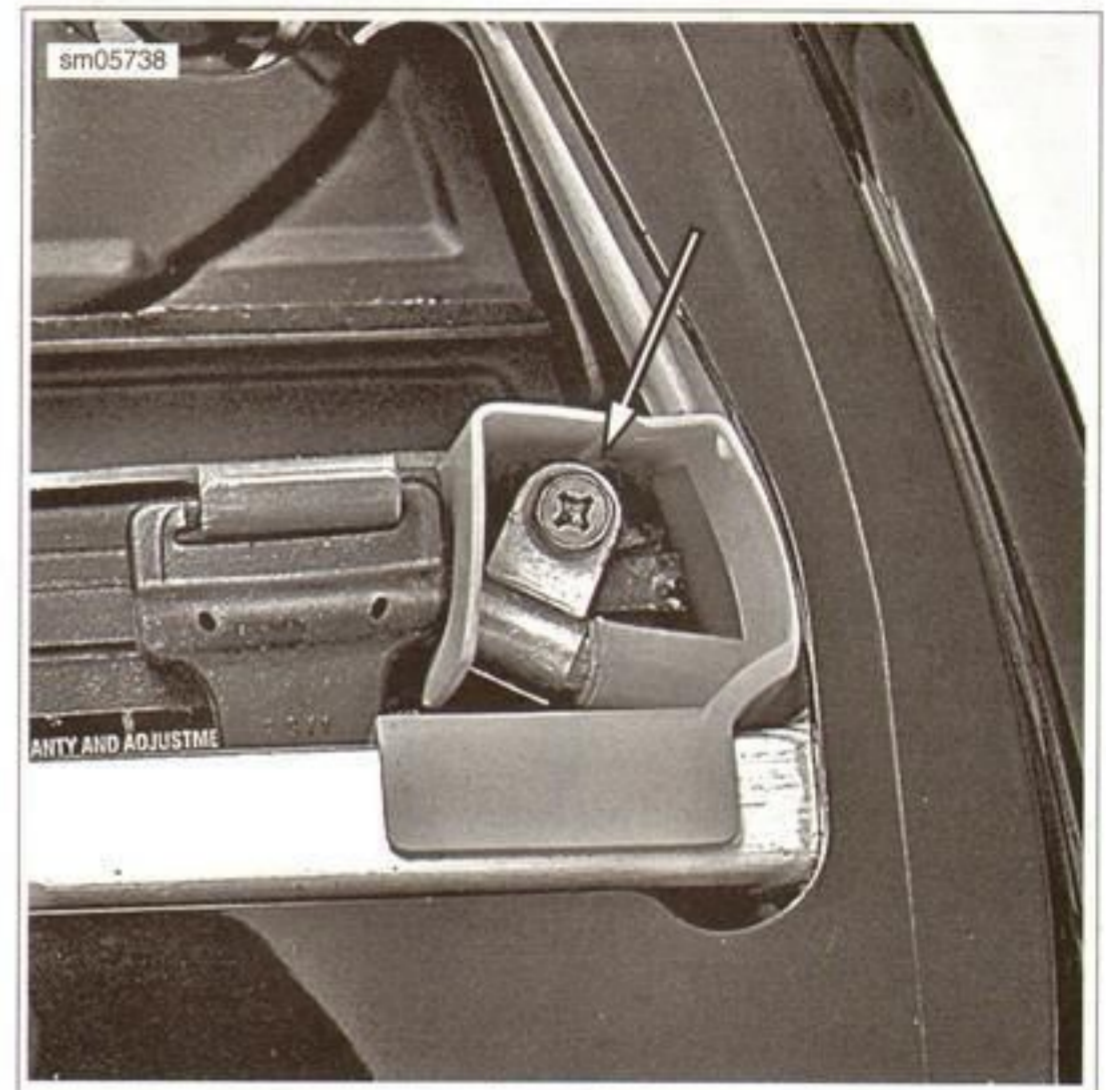

Figure 7-18. Positive Battery Cable Terminal
8. See Figure 7-18. Install the positive battery cable with the positive terminal shield.